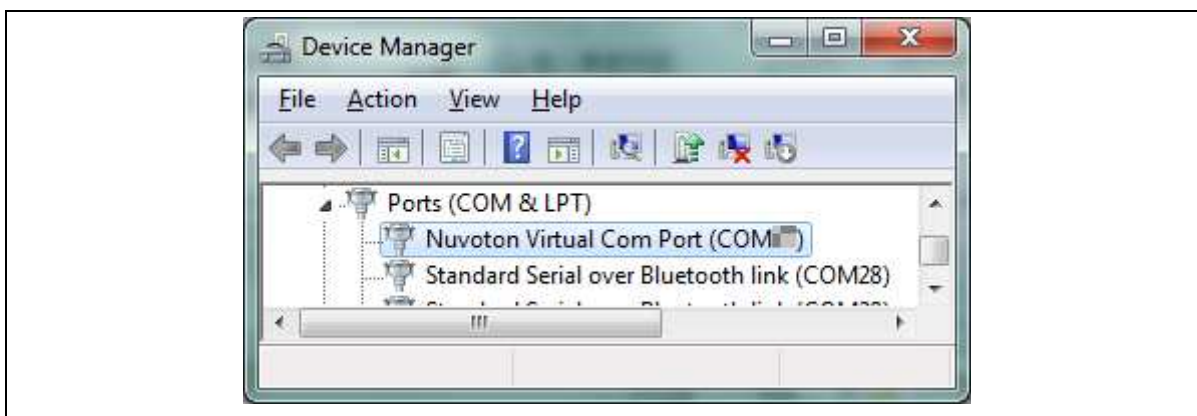

Figure 3.4-3 Device Manger
3. Find the “Nuvoton Virtual COM Port” on the Device Manager as Figure 3.4-3.